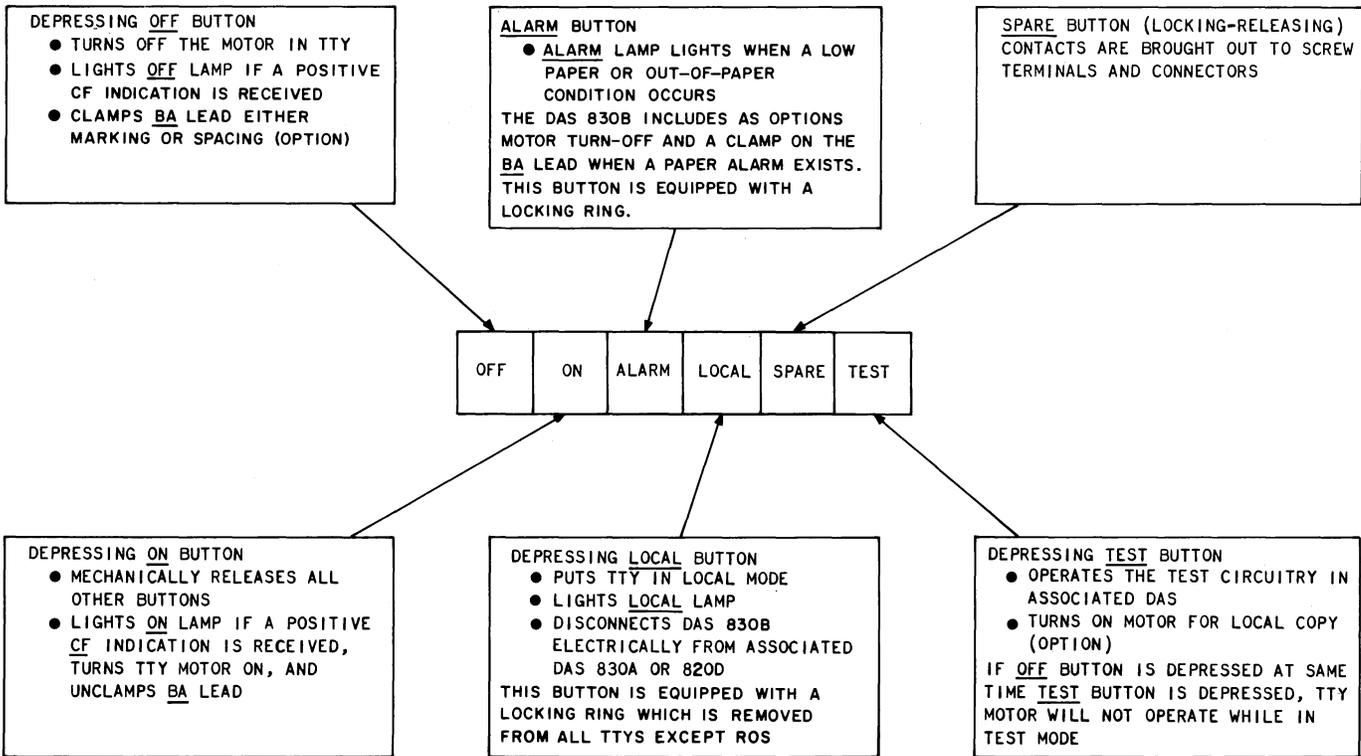

Fig. 11—DAS 830B—Key Designations and Functions
3.06 DAS 830B provides six buttons for controlling the operation of the terminal. Fig. 11 shows the 6-button key and the functions provided by each button.